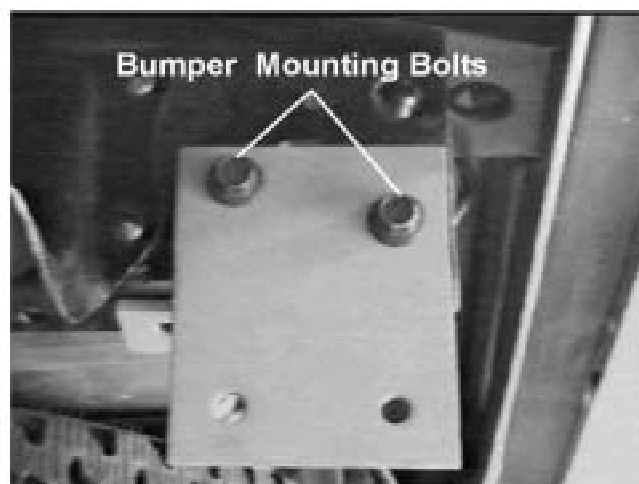

Figure 4
2. Position rear subframe brackets to frame rails and align holes. Temporarily install bumper mounting bolts to retain brackets. See Figure 4.